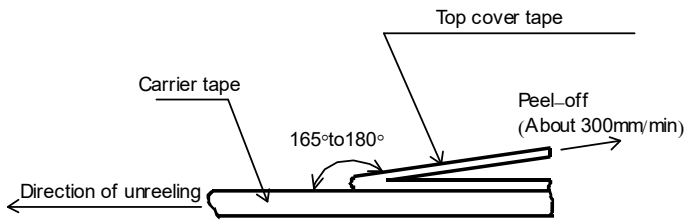
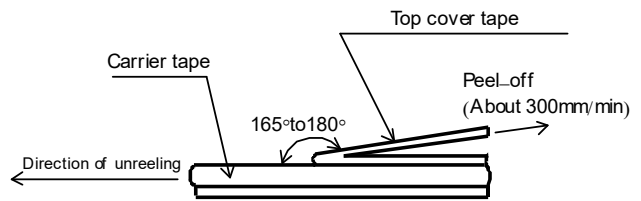

Figure-6
Figure-7
- 5). The peel strength of the top cover tape shall be within 0.1N to 0.5N on the test method as shown in the following RNC06: Figure-6, RNC20, 32: Figure-7.